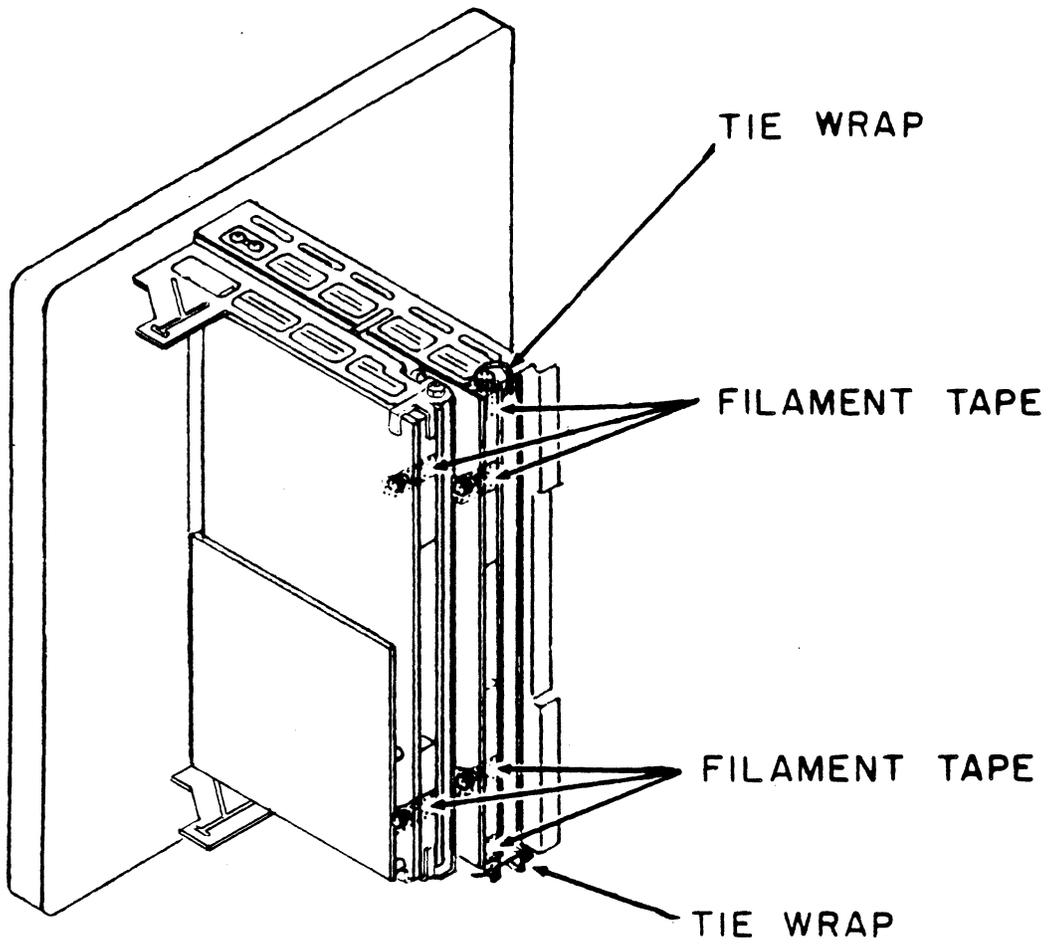

Figure 3-19. Tape Deck Shipping Material
18. Remove the filament tape and the tie-wraps from the PWAs. See figure 3-19.